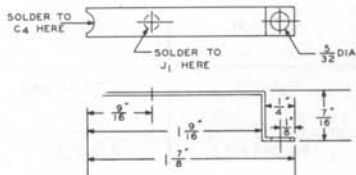

FIG. 1 DETAIL VIEW OF L6
The schematic diagram, Fig. 1, for this unit specifies a type 12AU7 harmonic generator, while the text of this article specifies a 12AT7 tube. The circuit values are designed for the 12AU7, but tests indicate that the 12AT7 tube will work in most cases, once the 2-megohm potentiometer is properly adjusted.
3. The connections to P_1 can be obtained from the schematic diagram for the bus-bar system used in the gadget rack, Fig. 1, on page 3 of the September-October, 1958 issue.
1. There has been much interest in changing the i.f. output frequency of the 432-megacycle converter from the 26 to 30-megacycle range, to the low-band TV channels (2 to 6). This enables the converter to be used as a UHF converter for a TV receiver which picks up amateur TV signals in the 420 to 450-megacycle band. The IF output coil, L_5 , (labelled L_4 on the schematic diagram, Fig. 1), should be reduced in inductance to tune the range from 54 to 72 megacycles. A coil made of about 6 turns of No. 16 tinned copper wire, 1/2-inch in diameter and 1/2-inch long, is substituted for the CTC coil specified for L_5 . Turns on this self-supporting coil should be squeezed or stretched so that the pi-network output circuit of the converter will tune to the desired TV channel.
FIG. 1. SCHEMATIC DIAGRAM OF THE BANDSWITCHING HIGH-C VARIABLE FREQUENCY OSCILLATOR VFO. CAPACITORS ACROSS THE OSCILLATOR GRID TUNED CIRCUIT FOR EACH BAND ARE DESCRIBED IN THE TEXT. GRID AND PLATE CIRCUIT FREQUENCIES, "A" AND "B" RESPECTIVELY, ARE LISTED IN TABLE I. ALL CAPACITANCES ARE IN MMF UNLESS OTHERWISE SPECIFIED. CHASSIS GROUNDS SHOULD BE MADE AT POINTS SHOWN.